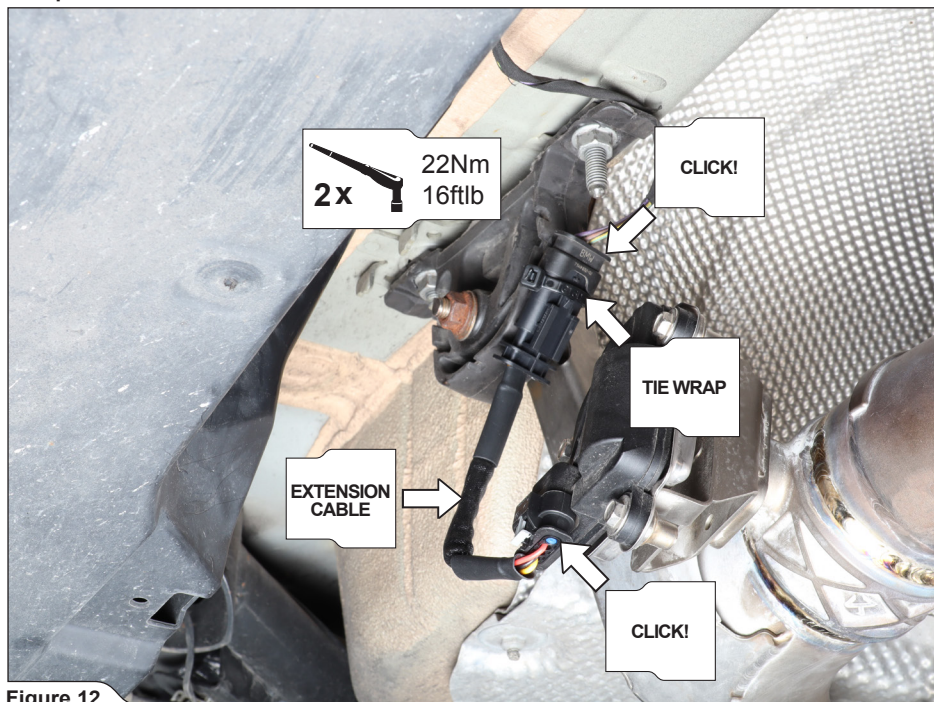

Figure 12
- Slide the muffler onto the link pipes, tighten all rubber brackets onto the chassis, install and secure the actuators' extension cables (using the tie wraps from Akrapovič installation kit), adjust and center the adapters with clamps in the middle of the joints and tighten the clamps (**Figure 12, 13, 14**).